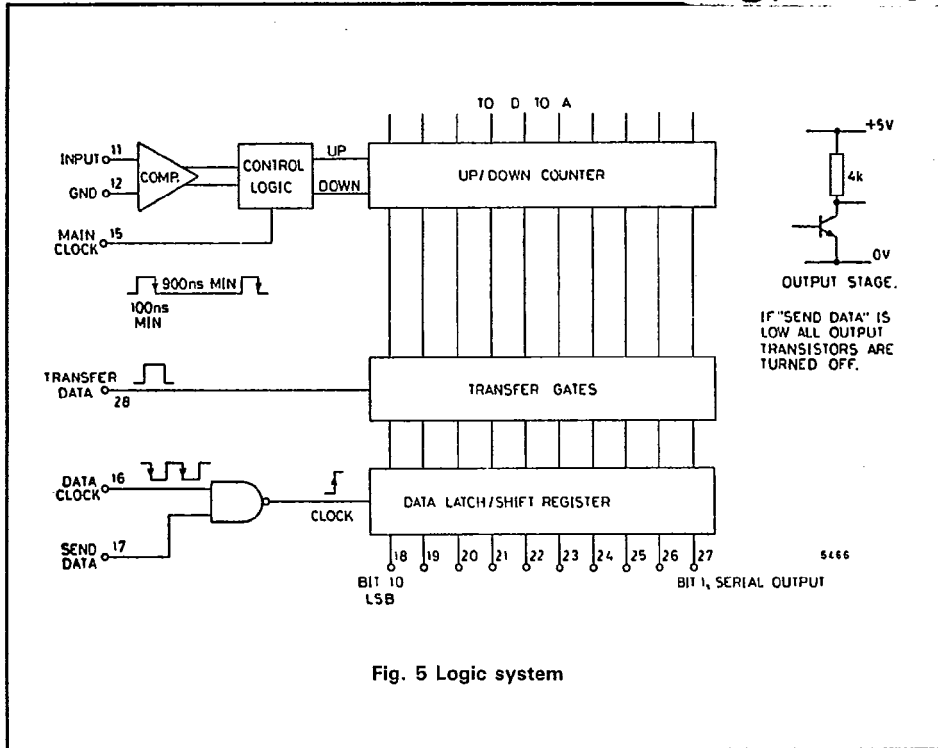

Fig. 5 Logic system
- Note 3 For main clock waveform see Fig. 5, page 2-51. Input signals which do not change by more than $1LSB/\mu s$ may be tracked continuously without the need for a sample and hold. This corresponds to a full-scale bandwidth of 300Hz. Higher frequencies may be tracked if the amplitude is reduced, e.g. the half full-scale bandwidth is 600Hz.